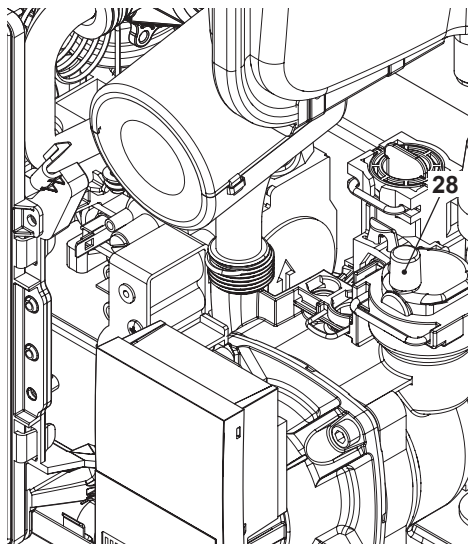

Fig. 7.2
- Loosen the cap on the automatic air purger valve 28 in Fig. 7.2 and leave open permanently.